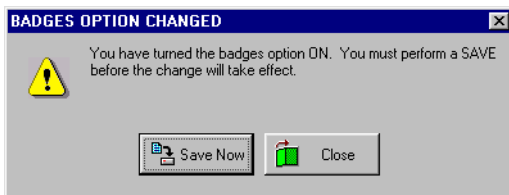

Figure 16: Enabling Badging Option Confirmation
- To enable badge printing, click the check box beside the Badging ON option (see Figure 32-14). When there is a check in the box, the feature is enabled. When the feature is enabled, the Badges Option Changed window appears (see Figure 16), verifying you want to make this change.